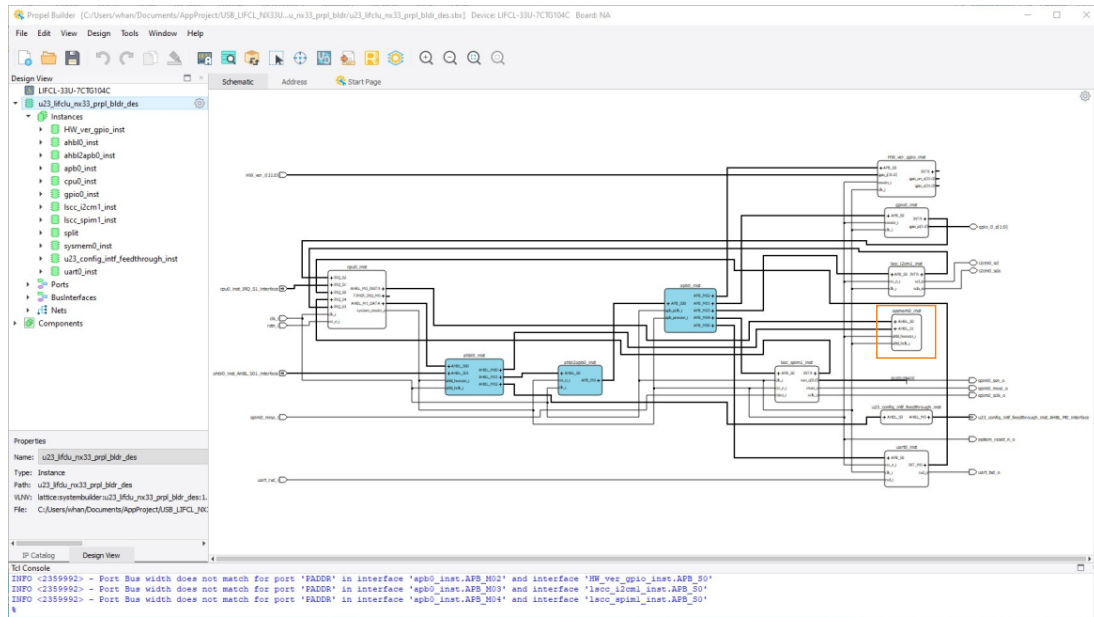

Figure 5.8. Opening System Memory Module Block Wizard
1. In the Propel Build design schematic, double-click on the **systemmem0\_inst** to open the system\_memory Module Block Wizard, as shown in Figure 5.8.